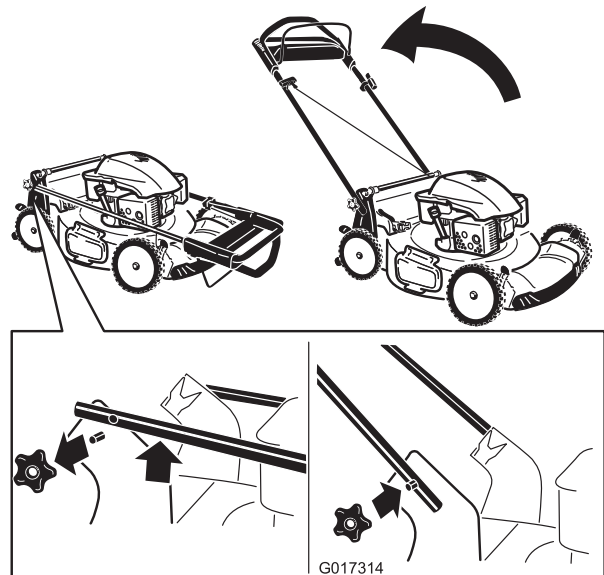

Figure 3
1. Remove and retain the handle knobs from the machine housing (Figure 3).